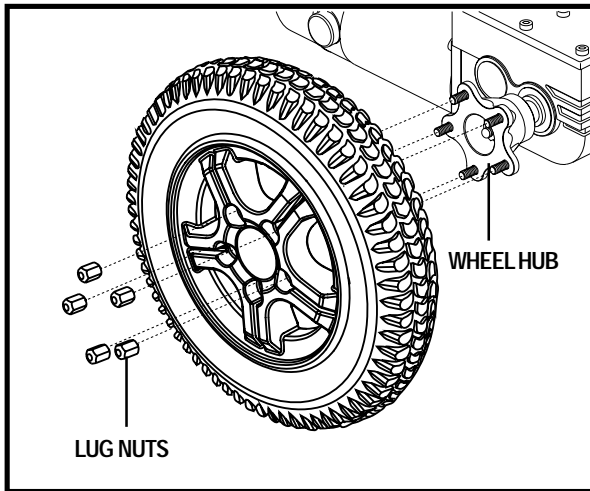

Figure 27. Quantum 6000 Drive Wheel
4. Remove the (5) lug nuts from the wheel hub. See figure 27.